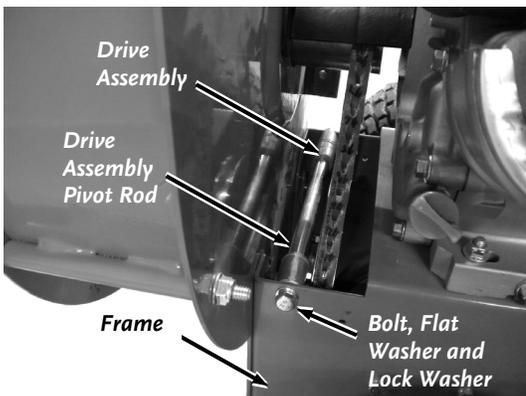

Figure 46
6. Remove the Bolts, Lock Washers and Flat Washers that Secure the Drive Assembly to the Frame using a 13mm Wrench (**Figure 46**). Use Pliers to hold the Drive Assembly Pivot rod while you loosen the Bolts.
16. While pushing down on the Drive Assembly, install the remaining Bolt, Lock Washer and Flat Washer. (**Figure 46**) Tighten the hardware using a 13mm Wrench.